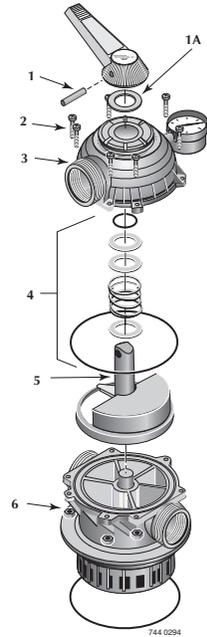

Fig. 12A: Valve Disassembly (1-1/2" Multiport Valve)
3. Remove pin (Key 1, Figures 12A and 12B) to disconnect handle. If it cannot be removed by hand, use a hammer and center punch and lightly tap it out.
- A. Remove all screws and nuts (Key Nos. 2 and 6, Figures 12A and 12B).